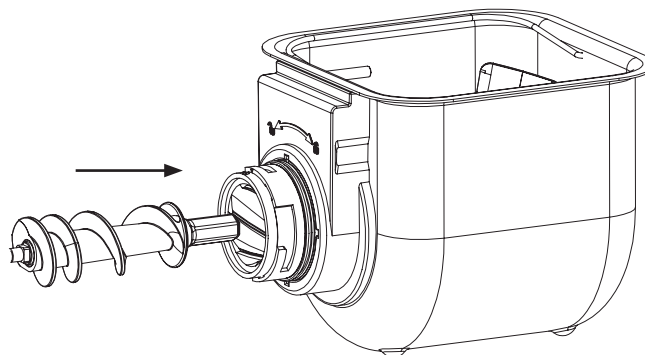

Fig. 3
1. Pot Front Cover Plate see fig 3. Place the Pot Front Cover Plate over the discharge opening.
3. Insert the Auger Screw as shown in Fig 3. and insert the Auger screw into the Mixing Paddles.